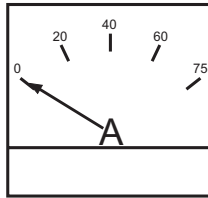

Figure 30. Ammeter (No Load)
8. The ammeter (Figure 30) will indicate zero amps with no load applied. When a load is applied, this meter will indicate the amount of current that the load is drawing from the generator.